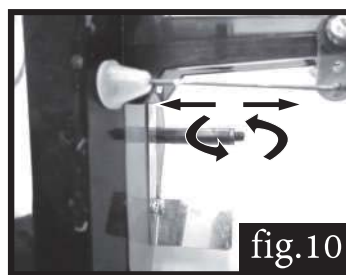

fig.10
10. Rotate the main shaft clockwise/anti-clockwise, and move forward/backward to make sure the oil is evenly inside the tube, fig. 10.